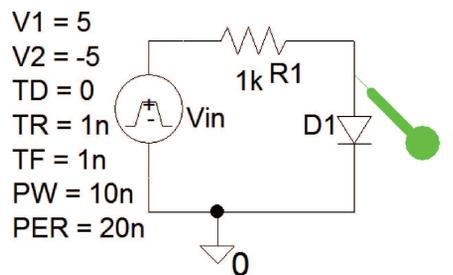

FIGURE 7.40: Measuring diode turn on/off times
- (2) In Fig. 7.40, investigate the diode turn on/off times using a **VPULSE** generator with a very fast ± 5 V pulse (I suggest **TR** = **TF** = 0.1ns, **PW** = 10 ns, **PER** = 20 ns). Plot the diode current.
- (3) Plot the Zener diode impedance in the different regions of the characteristic. Use the **D** operator.